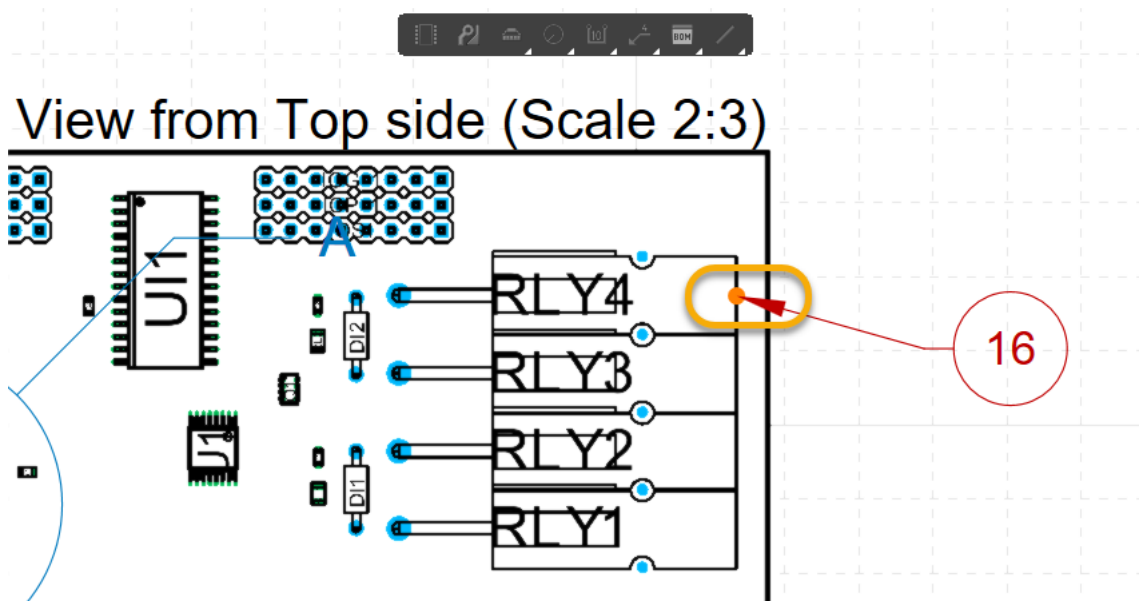

Figure 7. Select RLY4 for Callout
- a) Select RLY4 at the center of the right edge, as seen at Figure 7.